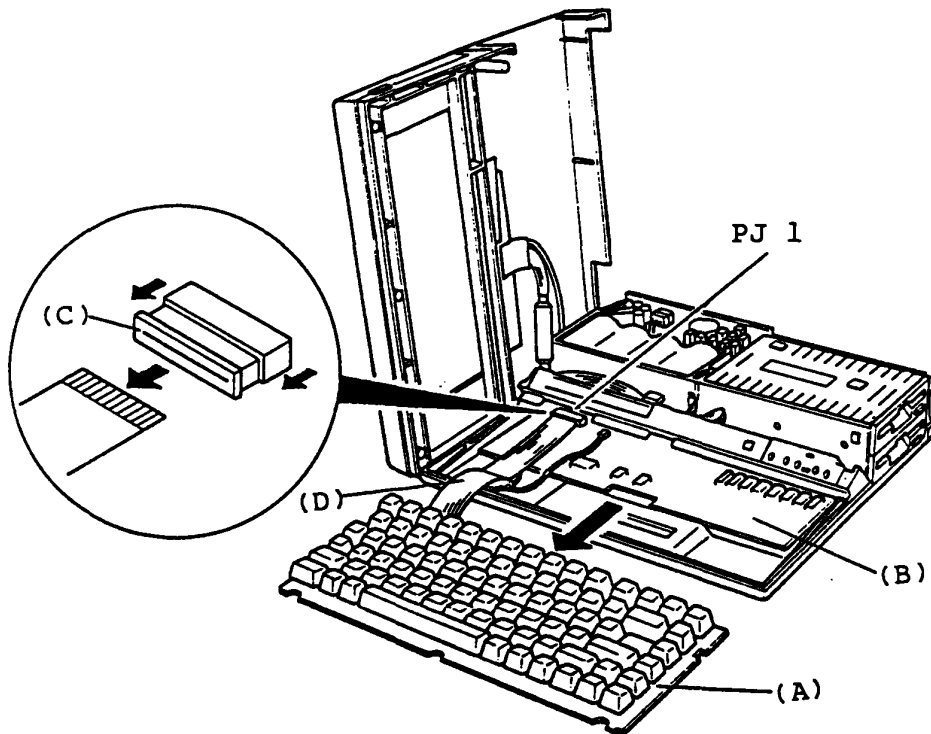

Figure 5-5 Keyboard Unit Removal
3. Lift up the Keyboard Unit, then put it in front of the System PCB (A). (refer to figure 5-5)
4. Lift up the Indicator Plate (B), then disconnect the LED cable (C) from the System PCB (A) to remove it.
5. Remove the one screw (D) on the rear panel of the Indicator Plate (B) to remove the Indicator (E).